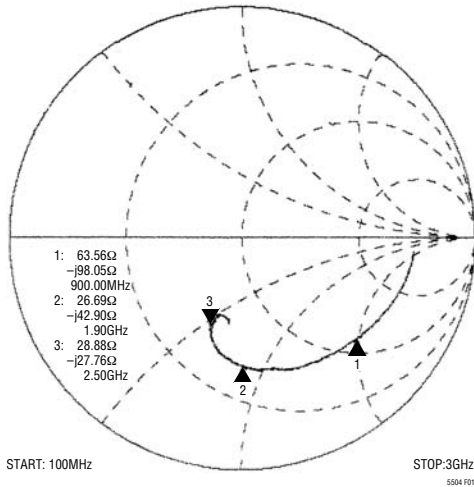
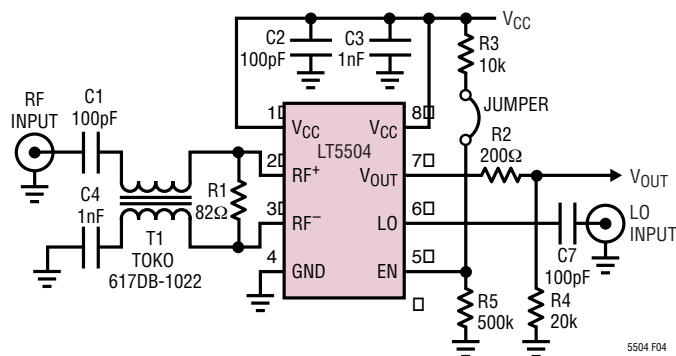

Figure 1. Differential RF Input Impedance
Figure 5. LT5504 Evaluation Board Circuit Schematic
**Note 2:** Tests are performed as shown in the configuration of Figure 5.
**Note 6:** Refer to Figure 1 and Applications Information.
The differential input impedance of the RF limiter is shown in Figure 1. A 1:1 input transformer can be used to achieve 50Ω broadband matching with an 82Ω shunt resistor (R1) at the inputs as shown in Figure 5.
The LT5504 can be used as a demodulator for AM and ASK modulated signals with data rates up to  $5\text{MHz}$ . Depending on specific application needs, the RSSI output can be split into two branches, providing AC coupled data output, and DC coupled, RSSI output for signal strength measurements and AGC. Refer to Figure 5.